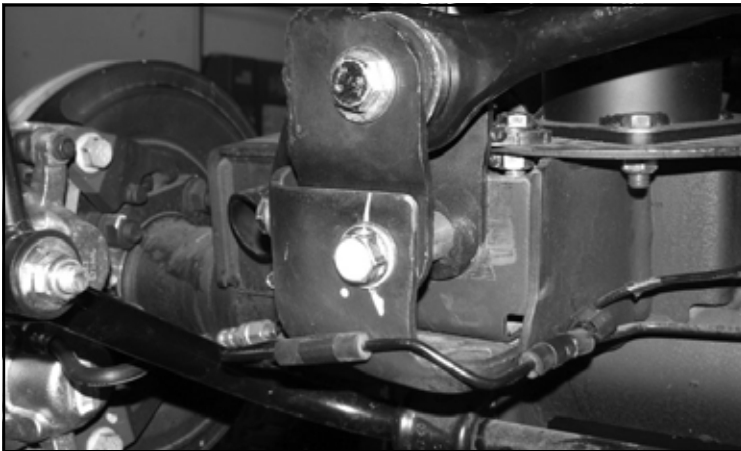

FIGURE 77 - STEP 69
69. Locate the supplied 9/16"-18x 4" bolt, nut and washers and install the rear track bar into the new location. Torque to 184 ft-lbs. **SEE FIGURE 77**